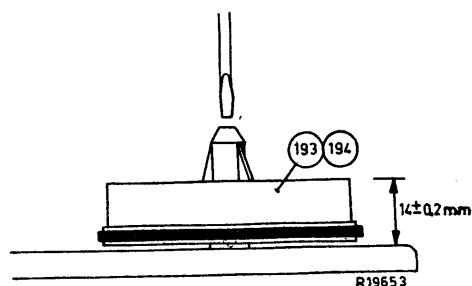

FIG. 14
- (a) The height of each turntable (193 and 194) can be adjusted by rotating its pivot screw 195. When set correctly, the top edge of the turntable should be 14 ± 0.2 mm. above the mounting plate (see Fig. 14). The